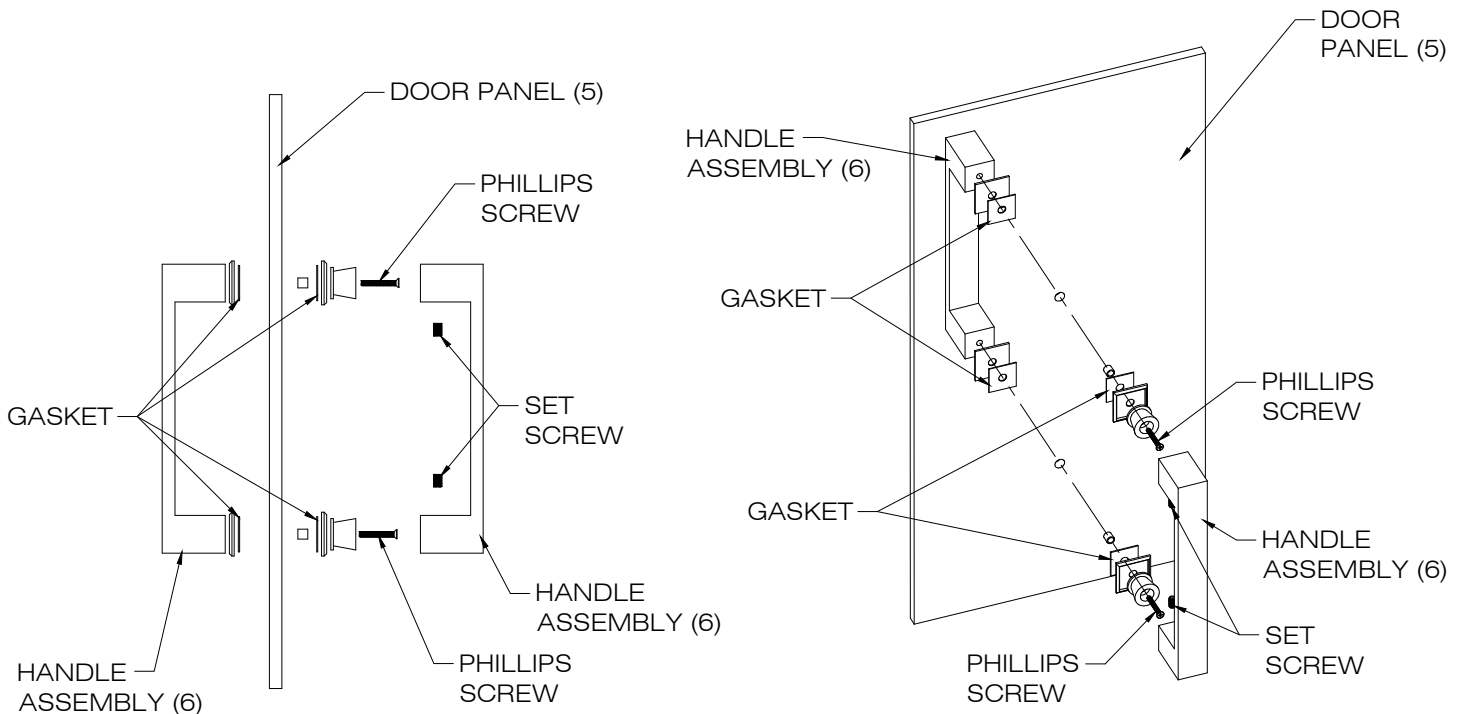

FIG.12
2. Install the handle as shown. Make sure to have gaskets between any metal and glass. [SEE FIG.12]